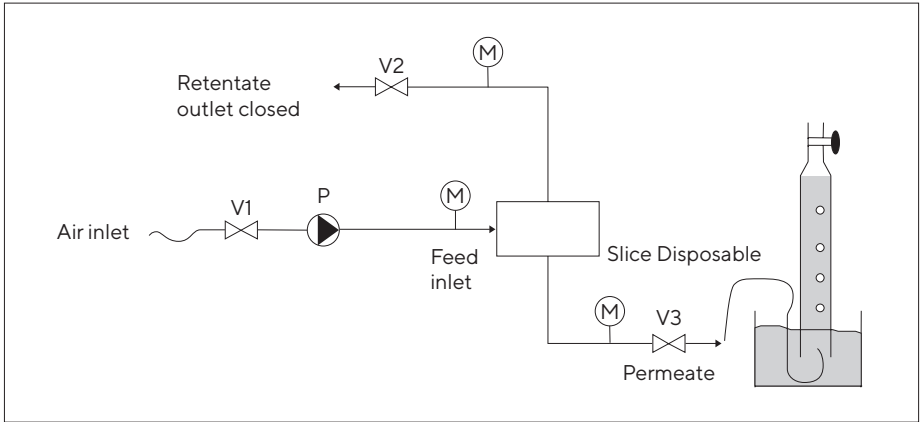

Fig. 4: System set up for manual integrity testing V1-V3: valves; P: pump; M: pressure gauges
- Close the lower permeate outlet (see Fig. 4).